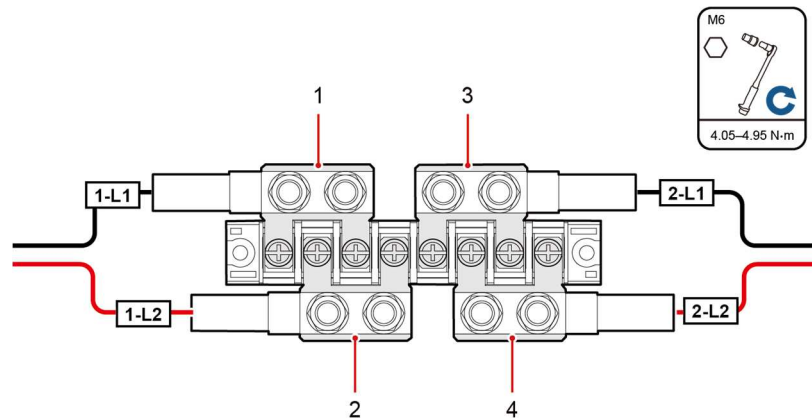

Figure 30 – Installing Power Cables for two AC dual-live Wire Inputs
Step 3 Secure the AC input OT terminals to the corresponding short-circuit copper bars, as shown in Figure 30.